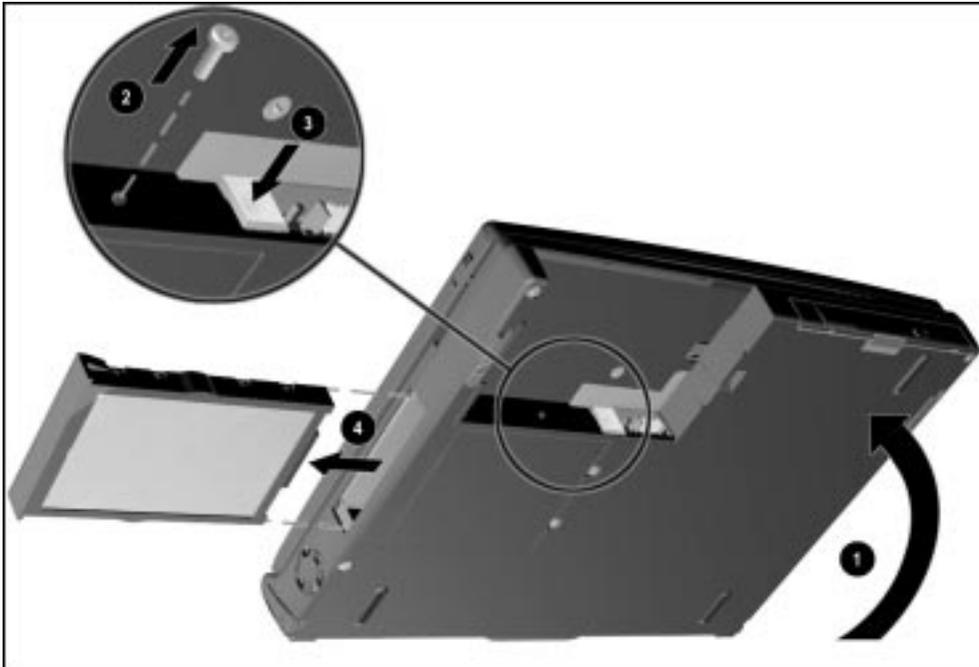

Figure 5-10. Removing a Hard Drive
3. Tilt the computer at an angle ❶ so the bottom of the computer is accessible (Figure 5-10).
4. If the hard drive has been secured in the hard drive bay with a security screw ❷, remove the screw using the security screwdriver provided with the computer.
5. Press the hard drive release button ❸.
6. Remove the hard drive from the hard drive bay ❹.